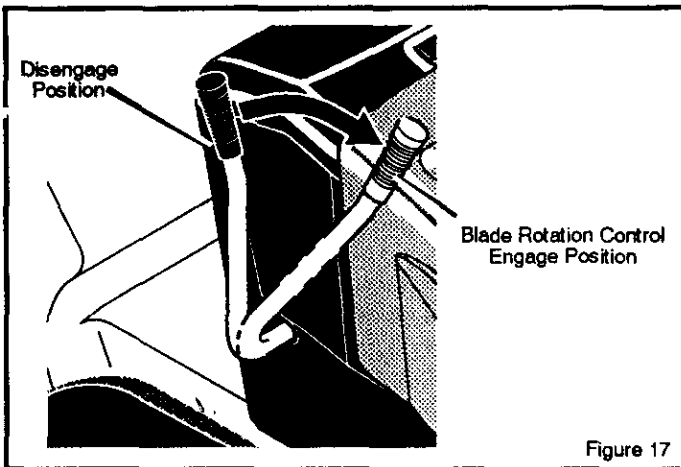

Figure 17
2. Move the blade rotation control to the DISENGAGE position (Figure 17).